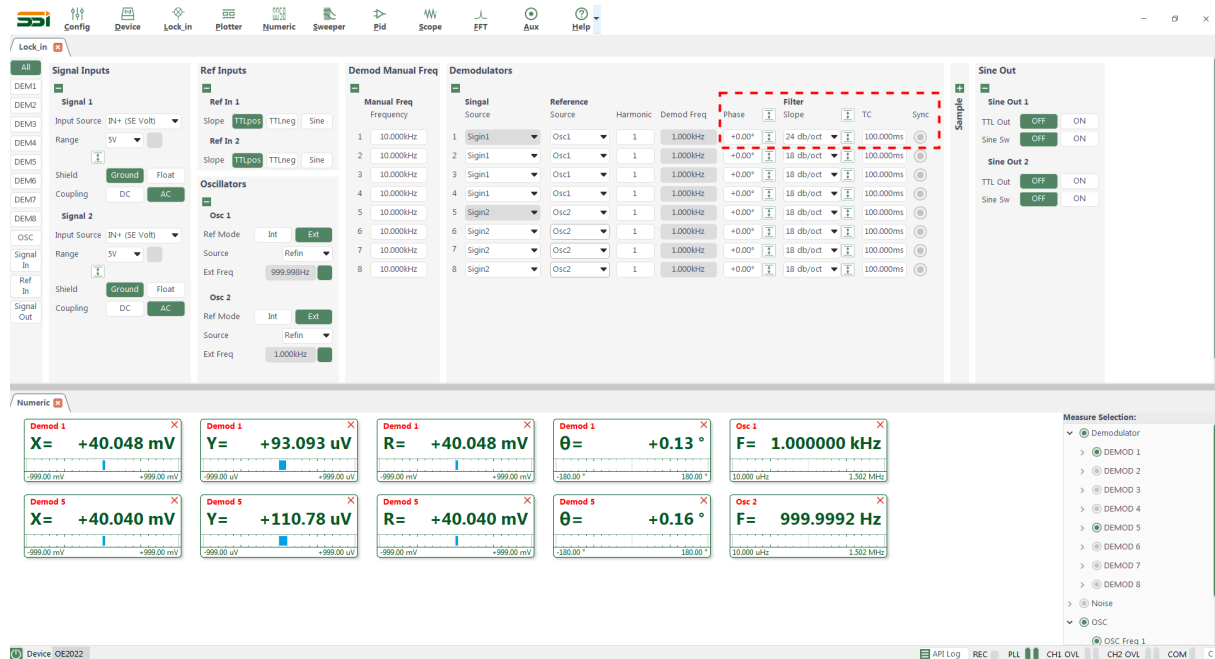
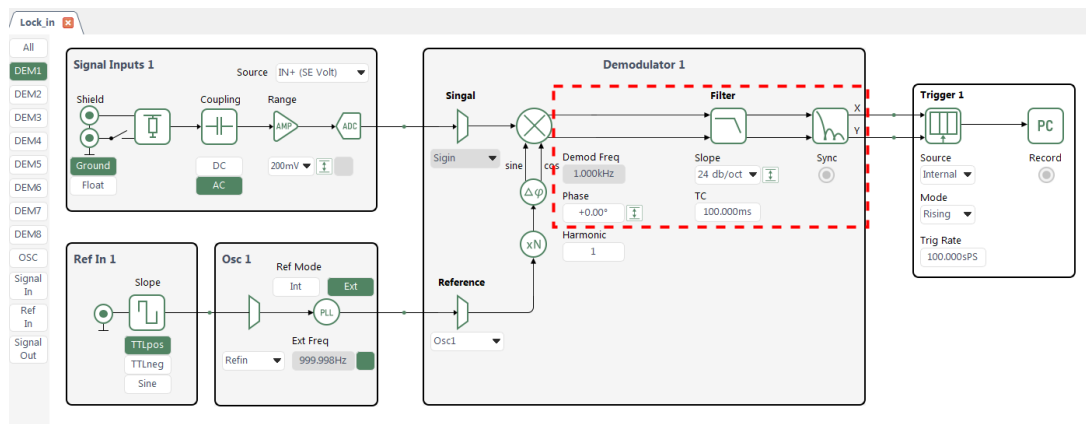

Figure 35. Filter Configuration
Figure 36. Filter Configuration Area in the Flow Diagram
3. According to Table 4, select the demodulator time constant, filter roll-off, and phase adjustment value in the filter configuration area. Keep the other options at their default values. As shown in Figure 35 and Figure 36, select either method to make the changes and complete the configuration.